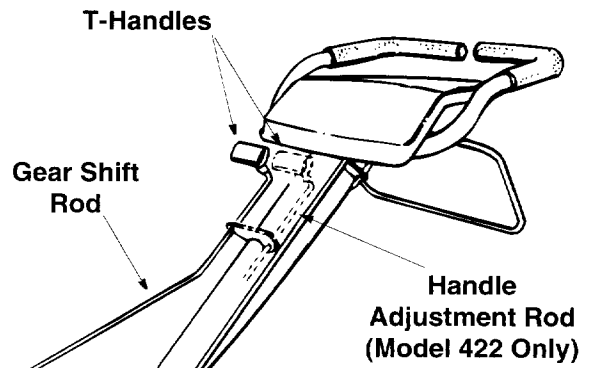

Figure 7
- Remove the T-handle, nut, hairpin clip, flat washer and rubber washer from the end of the gear shift rod. Slide the rod up through the bracket on the front of the handle assembly (use the right hand hole for Model 422). See Figure 7.
1. Remove the T-handle, nut, hairpin clip, and rubber washer from the ends of the handle adjustment rod. Slide the rod up through the left side of the bracket on the front of the handle assembly. Refer to Figure 7.